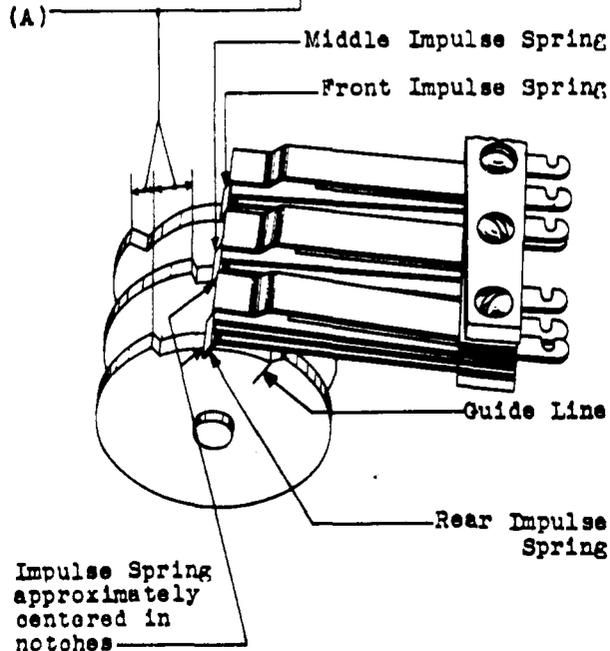

Fig. 7 - Setting of Impulse Wheels
***2.14 Setting of Impulse Wheels - No. 491A Key - Fig. 7 (A)**